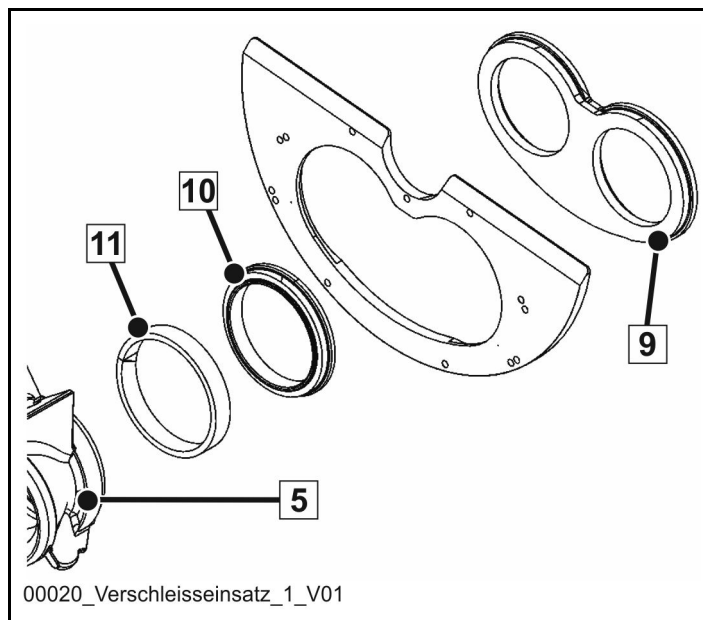

Fig. 327
A one-piece wearing insert (9) (Fig. 327) made of white cast iron is used as standard.